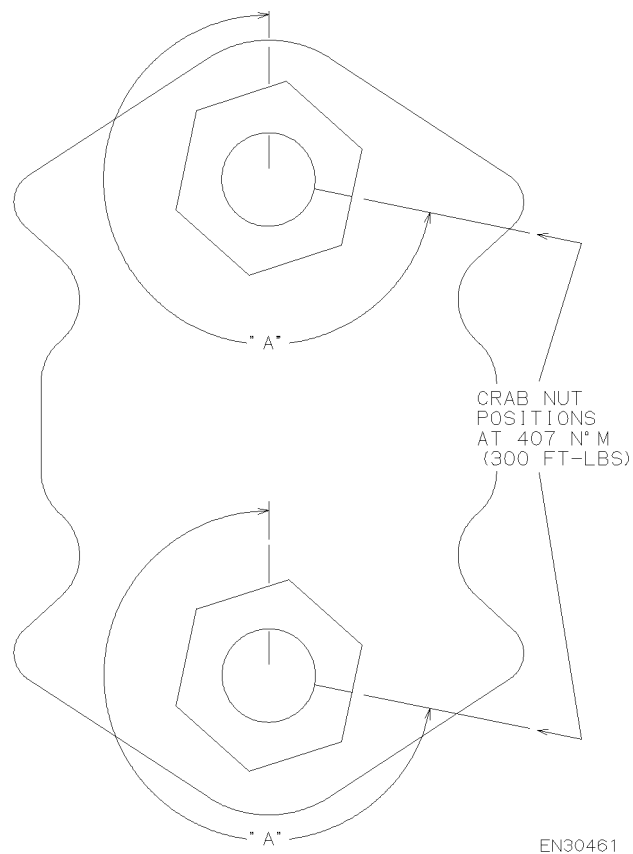

Figure 5-38. Crab Nut Angle “A” Positions
6. Measure the angle of nut rotation from the line on the plate crab and bolt to the line marked on the nut using the special protractor as depicted in angle “A,” Figure 5-38., on page 5-48. Align the protractor “0” degree mark to the 12 o’clock position, then measure the angle of degrees to the line marked on the crab nut in the counter-clockwise direction.